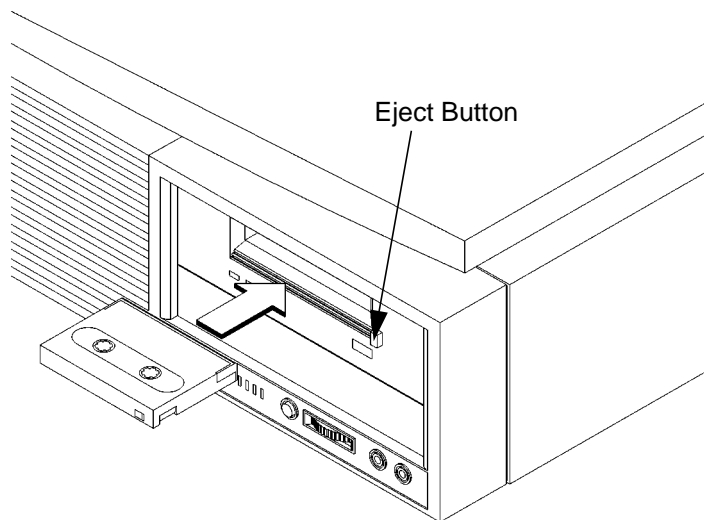

Figure 17
- 2 Insert the data cassette into the drive, as shown in Figure 17.
- 4 To remove the data cassette, press and release the eject button on the front of the drive, as shown in Figure 17. The LEDs on the drive flash on and off. Ten to twenty seconds later, the data cassette slides partway out of the drive. Remove the cassette from the drive.